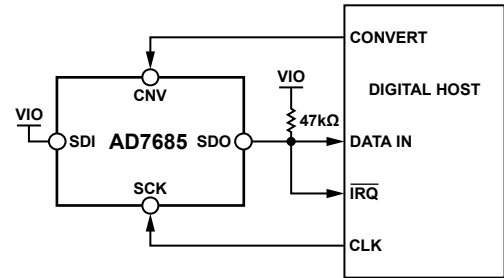
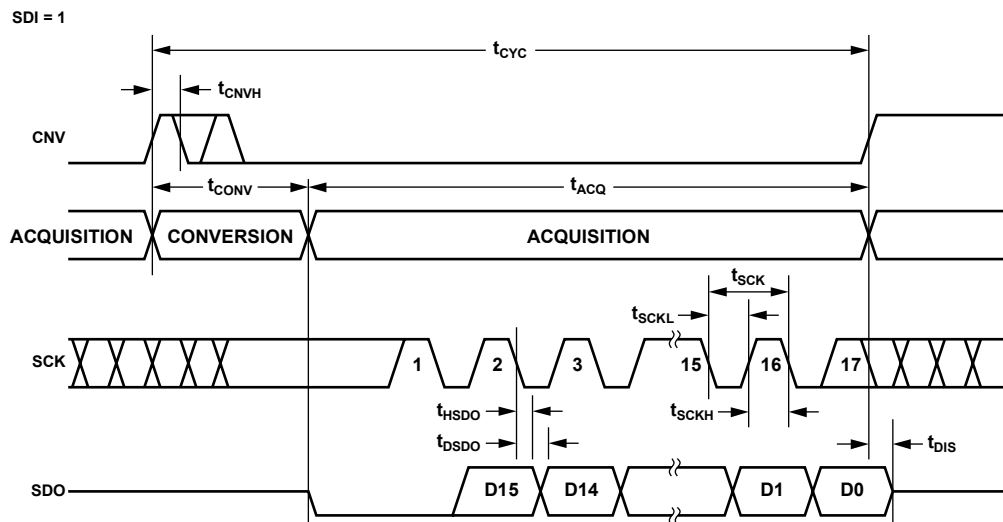
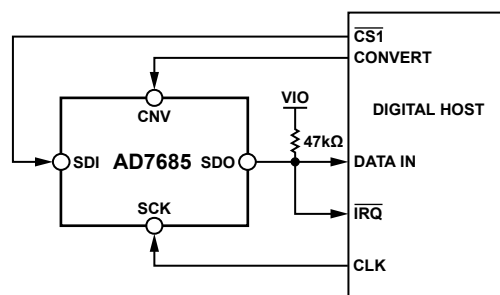
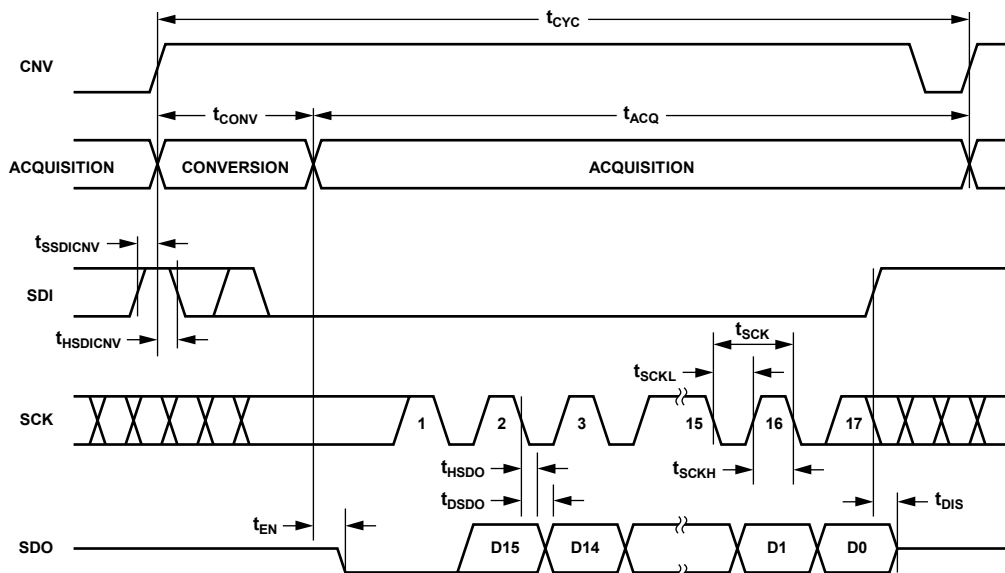

Figure 36. $\overline{\text{CS}}$ Mode 3-Wire with $\overline{\text{BUSY}}$ Indicator Connection Diagram (SDI High)
Figure 37. $\overline{\text{CS}}$ Mode 3-Wire with $\overline{\text{BUSY}}$ Indicator Serial Interface Timing (SDI High)
Figure 40. \overline{CS} Mode 4-Wire with BUSY Indicator Connection Diagram
Figure 41. \overline{CS} Mode 4-Wire with BUSY Indicator Serial Interface Timing
- In the $\overline{\text{CS}}$ mode, if $\overline{\text{CNV}}$ or SDI is low when the ADC conversion ends (see Figure 37 and Figure 41).
The connection diagram is shown in Figure 36, and the corresponding timing is given in Figure 37.
The connection diagram is shown in Figure 40, and the corresponding timing is given in Figure 41.